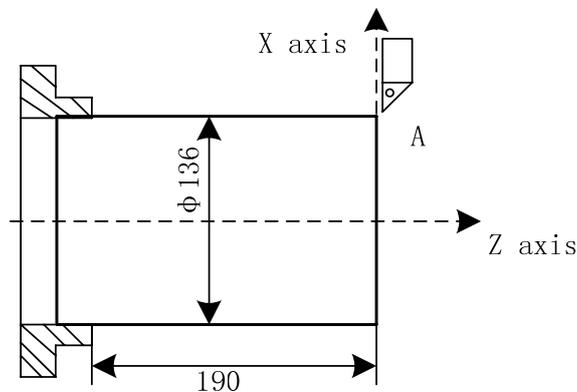

Fig.10-8
(6) Traverse the tool to the safe position, press the tool change key to execute No.2 tool in Manual mode;
(7) Start the spindle and traverse the tool to the toolsetting point as shown in Fig.10-8, point A;